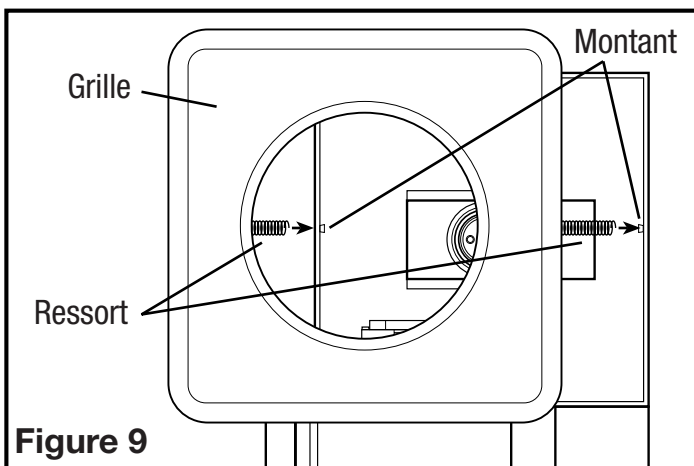

Figure 9
2. Remove grill from carton and attach springs from grill to posts on either side of housing (**Figure 9**).